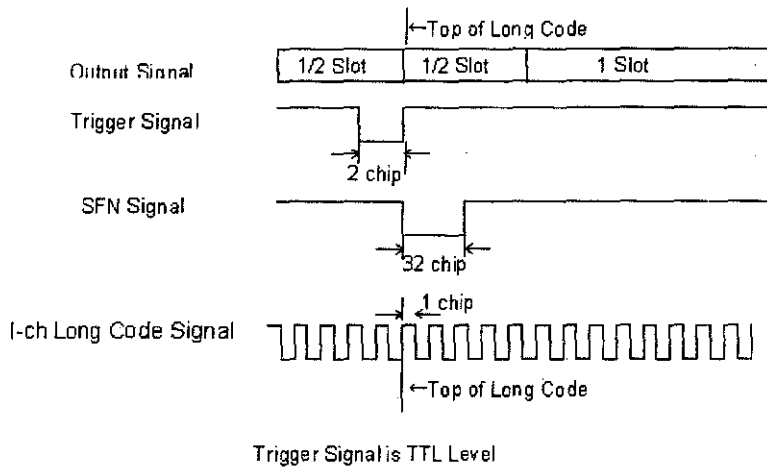

Figure 3-21 Timing Chart of SFN Test Signal
The specification required for the test signal is listed in Table 3-28. Figure 3-21 is shown timing chart of output signal, SFN and Long code.
2. On the SG5, set the data to generate the signal complied the requirement, refer to Table 3-28 and Figure 3-21.